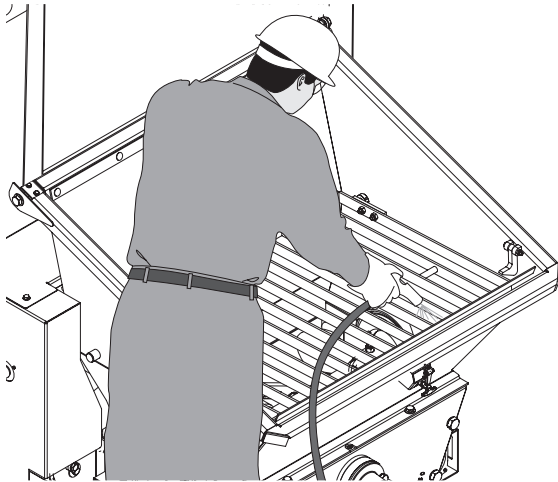

Figure 24
- Spray water into the hopper from above the hopper grate (Figure 24).
- Keep the agitator turning until the blades are sprayed clean (Figure 24). Wash the material from the hopper out of the clean out door on the bottom.